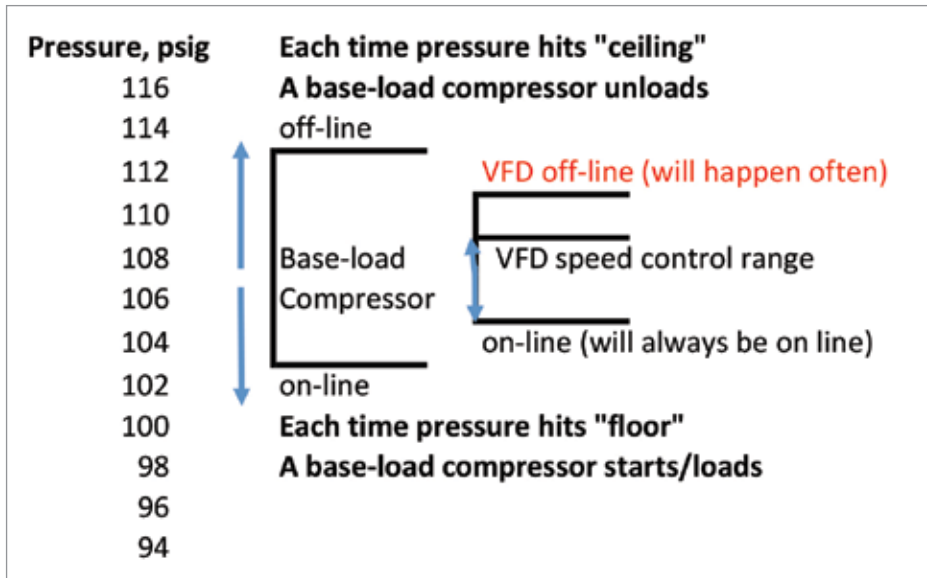

Figure 4. Target algorithm, small VFD air compressor.
- Set fixed speed air compressor setpoints outside the entire VFD air compressor's range, including its unload point. See Figure 4.
However, without data-collection and tuning, this easily could have gone awry. We tuned around the "control gap" problem. In general, to avoid control gap with a small VFD air compressor, you need to completely capture the VFDs control range within the base-load air compressor's range as illustrated in Figure 4. Then the VFD will unload before the base-load air compressor does.